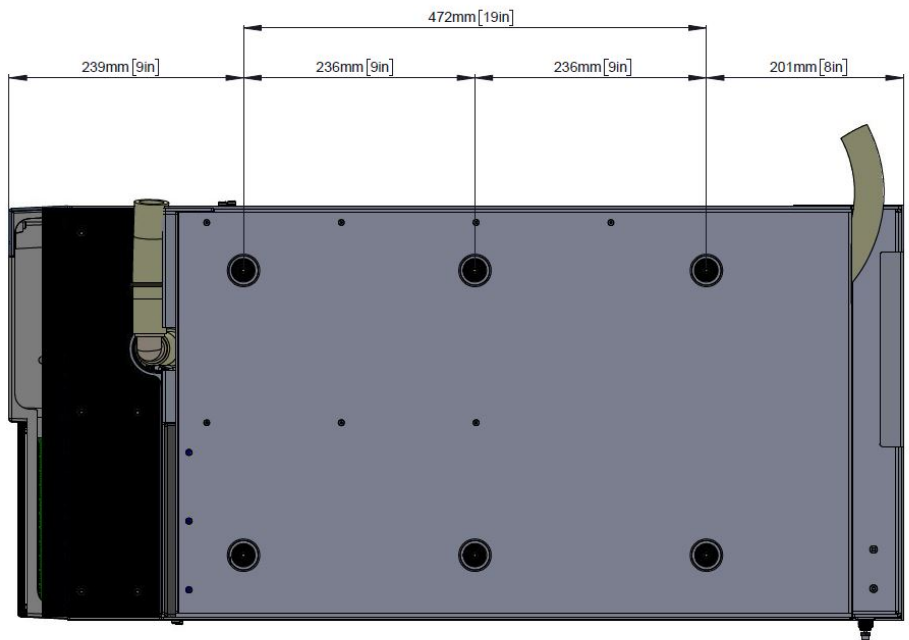

Figure 1: Location of the feet on the bottom of the ISQ EC instrument
- 2) The instrument is designed to sit on a standard 30 in (76.2 cm) deep bench. Be sure the ISQ EC instrument's feet fit securely on the workbench. See Figure 1 for the position of the feet on the bottom of the instrument.